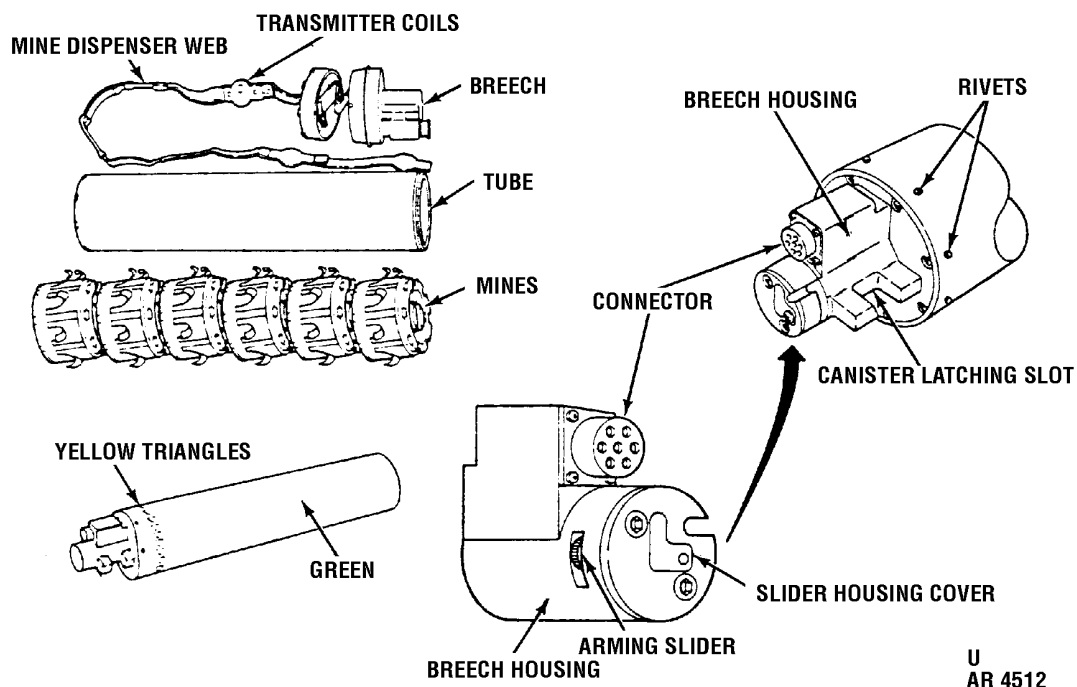

Figure 1-19. Canister, mine: M87 and M87A1.
(1) Each canister mine (fig. 1-19) is an expendable item consisting of an aluminum tube and breech assembly containing five antitank mines and one antipersonnel mine for the M87 canister, and six antitank mines for the M87A1 canister. Also housed in the canister are six transmitter coils attached to a dispersion strap and a propulsion system. The propulsion system consists of a self-contained electrically-initiated primer, and a pressure cartridge assembly containing propellant. The canister is painted in green and has one colored band of yellow triangles near the breech.
(2) When an electrical pulse is received, the electric primer initiates the pressure cartridge expelling a mine stack from the canister. The mine stack consists of five antitank mines and one antipersonnel mine for the M87 canister, and six antitank mines for the M87A1 canister. An interfaced web provides dispersion, self-destruct, and arm signals, set from the dispenser control unit to the mines.